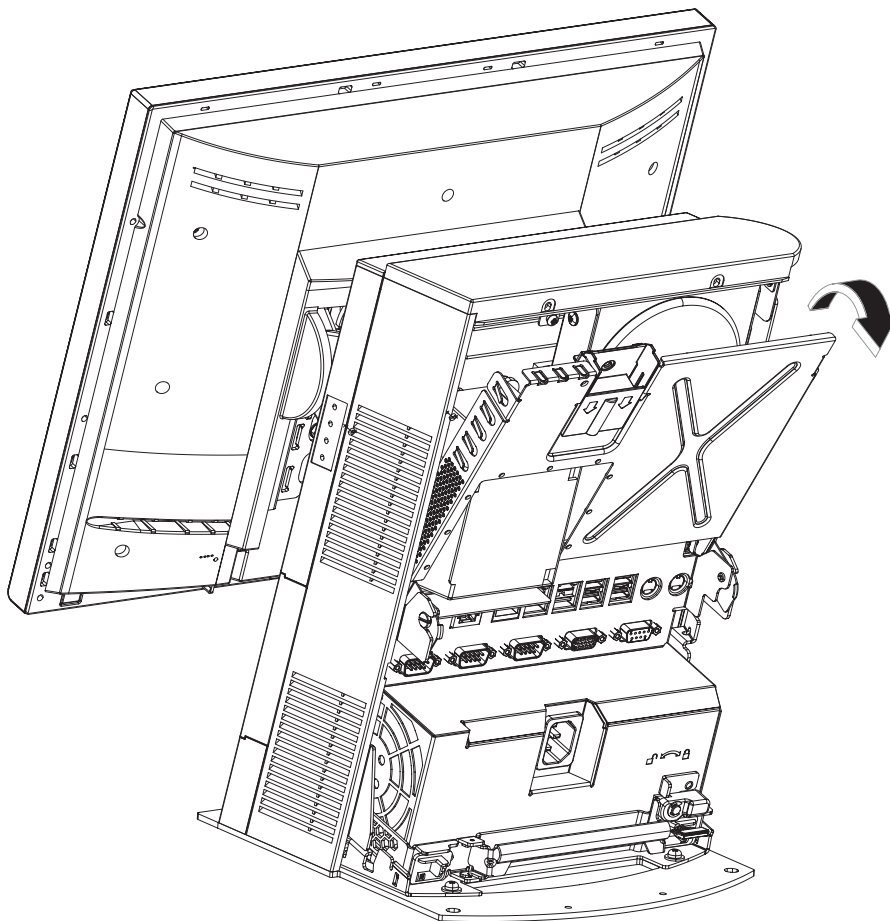

Figure 9. Opening the I/O tailgate cover
2. Unlatch the I/O tailgate cover by pushing down and pulling back on the latch as seen in Figure 9.